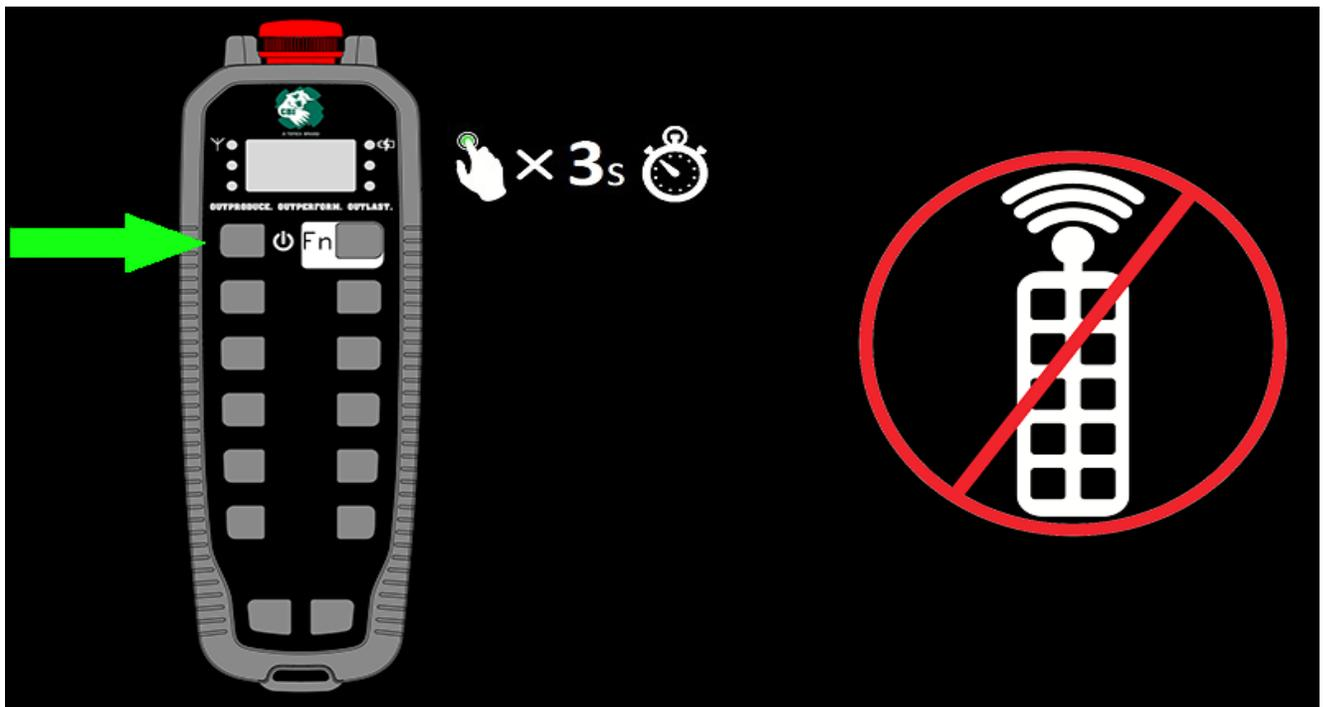

Figure 5.10 - Power Off Remote Control
12. Momentarily press the ON/OFF button to turn off the remote. (Figure 5.10).